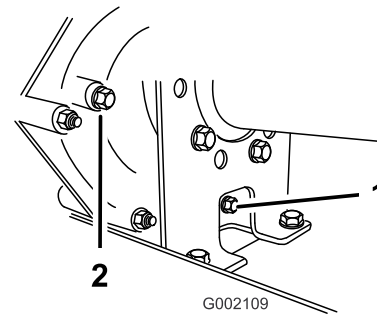
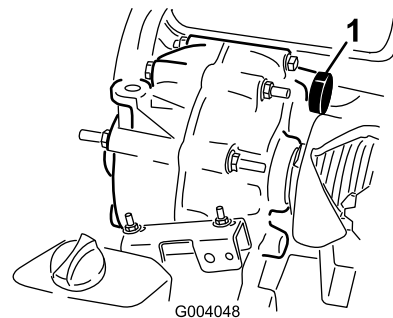

Figure 56
Figure 57
2. Wipe the area around the fill and drain plugs clean with a rag (Figure 56).
4. Remove the fill plug by rotating it counterclockwise (Figure 56).
5. Remove the drain plug by rotating it counterclockwise (Figure 56).
6. Install and tighten the drain plug and gasket into the drain-plug hole of the transmission (Figure 56).
7. Fill the reservoir (Figure 57) through the fill-plug hole with approximately 1.4 L (1.5 US qt) of the specified fluid or until the fluid level in the transmission is even with the bottom of the threads. (Figure 56).
8. Install and tighten the fill plug and gasket into the fill-plug hole of the transmission (Figure 56).
10. Check the fluid level and add more fluid if the level is below the threads of the fill-plug hole (Figure 56).